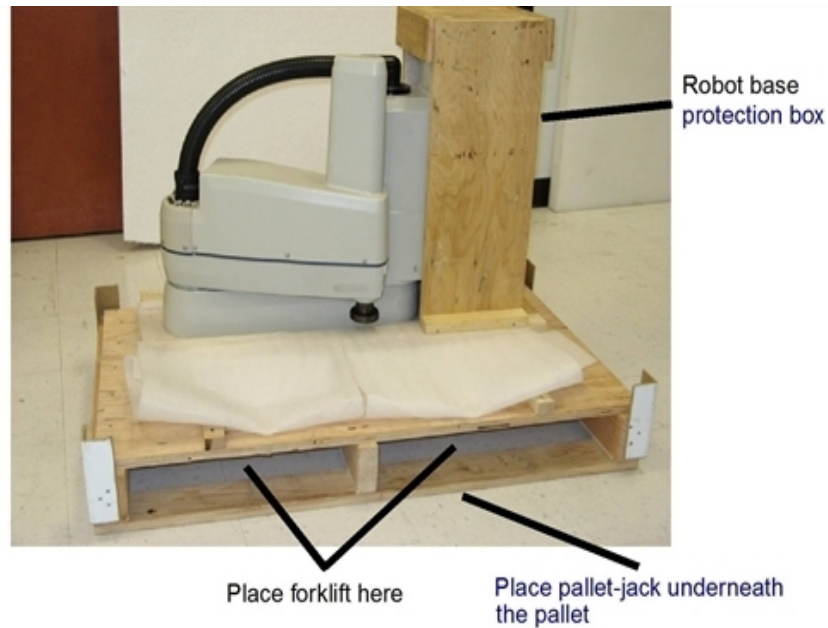

Figure 2-4. Robot on a Transportation Pallet
2. Remove the four screws on top of the wooden robot base protection box (see Figure 2-4).